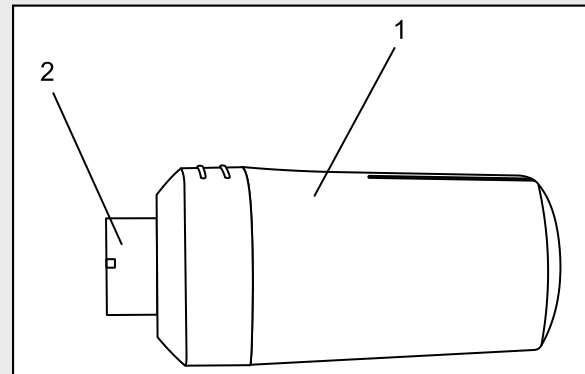

Fig. 2
1. Remove the dust box assembly (1) from the dust chute by rotating it COUNTER CLOCKWISE approximately 15° and pulling it out of the dust chute (Fig. 2).
2. Carefully shake the dust box assembly with the end cap opening (2) pointing downward to remove the sanding dust.